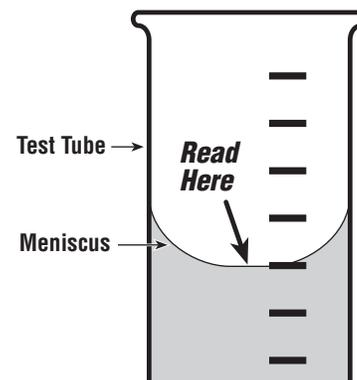

Figure 9-6. Measurements should be made at the bottom of the meniscus.
- Carefully measure the amount of fixed sample used in titration; this step is critical to the accuracy of the results. The bottom of the meniscus should rest on top of the white line on the titration test tube. (A **meniscus** is the curved upper surface of a liquid column that is concave when the containing walls are wetted by the liquid—see Figure 9-6.)